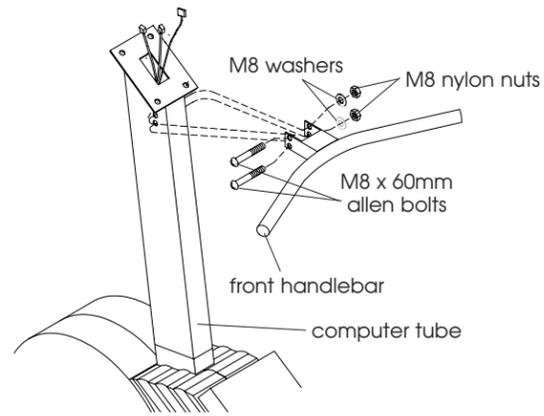

Figure 8 - Install Front Handlebar
- a) Remove (2) Allen Bolts, (2) Washers and (2) Nylon Nuts from Front Handlebar.
- b) Align bolt holes in Front Handlebar with holes in Computer Tube, see Figure 8.
- c) Re-install (2) Allen Bolts, (2) Washers and (2) Nylon Nuts that were removed in step 8a and tighten.
- a) Remove battery door from back of Computer, insert (4) "C" batteries and replace the battery door.